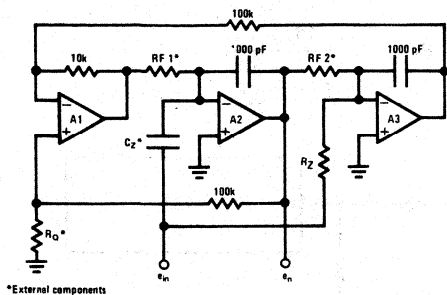

FIGURE 7. Input Notch Using Three Amplifiers
j) Input notch (Figure 7) transfer function equations are: